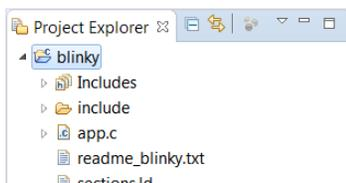

Figure 10. Newly Imported Project
- On the **Import Projects** dialog, click **Finish**. This creates a new project in your workspace called *blink*. The project appears in the left side of **Project Explorer**, as shown in Figure 10.